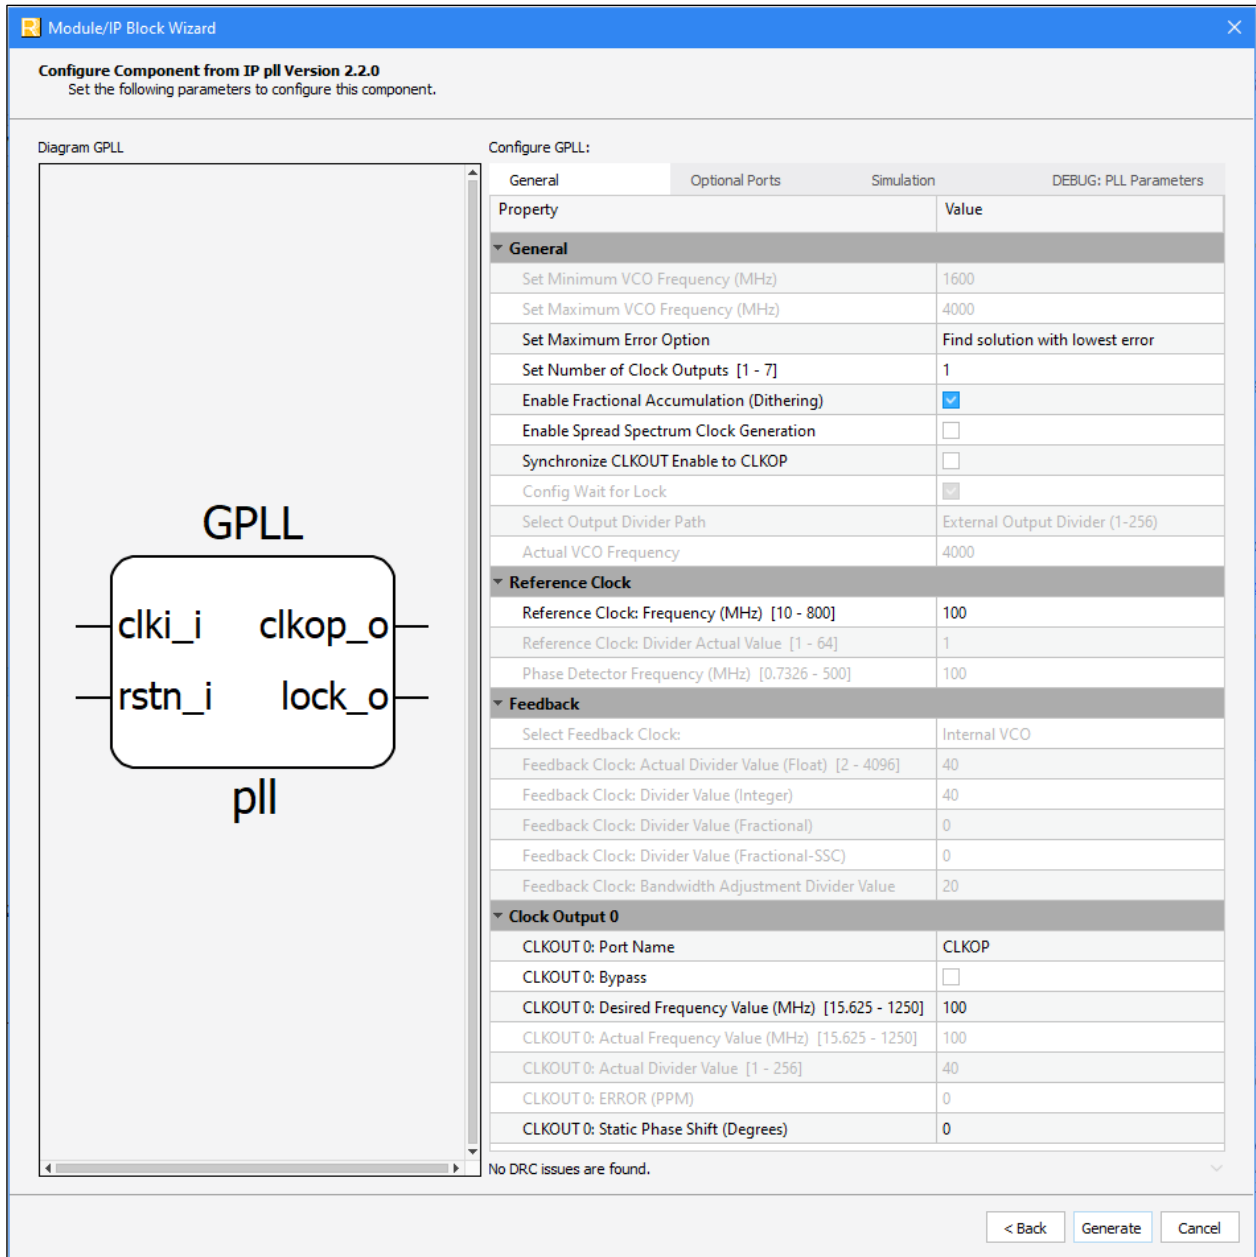

Figure 3.2. Configure User Interface of PLL Module
3. In the module dialog box of the **Module/IP Block Wizard** window, customize the selected PLL Module using drop-down menus and checkboxes. As a sample configuration, see Figure 3.2. For configuration options, see the Attribute Summary section.